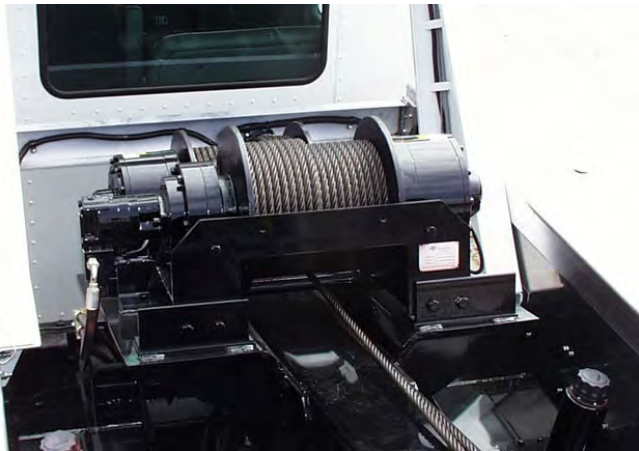

FIGURE 3.4
- 3.6** The self-locking winches are powered by hydraulic motors attached directly to the winch drum shafts. See Figure 3.4.